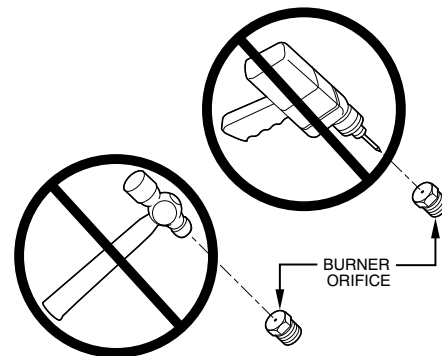

Fig. 62 – Orifice Hole
DO NOT redrill orifices. Improper drilling (burrs, out-of-round holes, etc.) can cause excessive burner noise and misdirection of burner flames. This can result in flame impingement of heat exchangers, causing failures. See Fig. 62.
- Move setup SW1-2 on furnace control to ON position to lock furnace in low-heat operation. See Fig. 62 and Fig. 39.